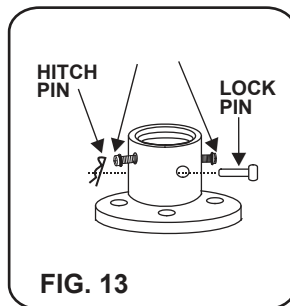

FIG. 13
Step 2. Remove the two Set Screws, the Hitch Pin and Lock Pin from the coupling located on the top of the Motor Assembly. (Fig. 13)